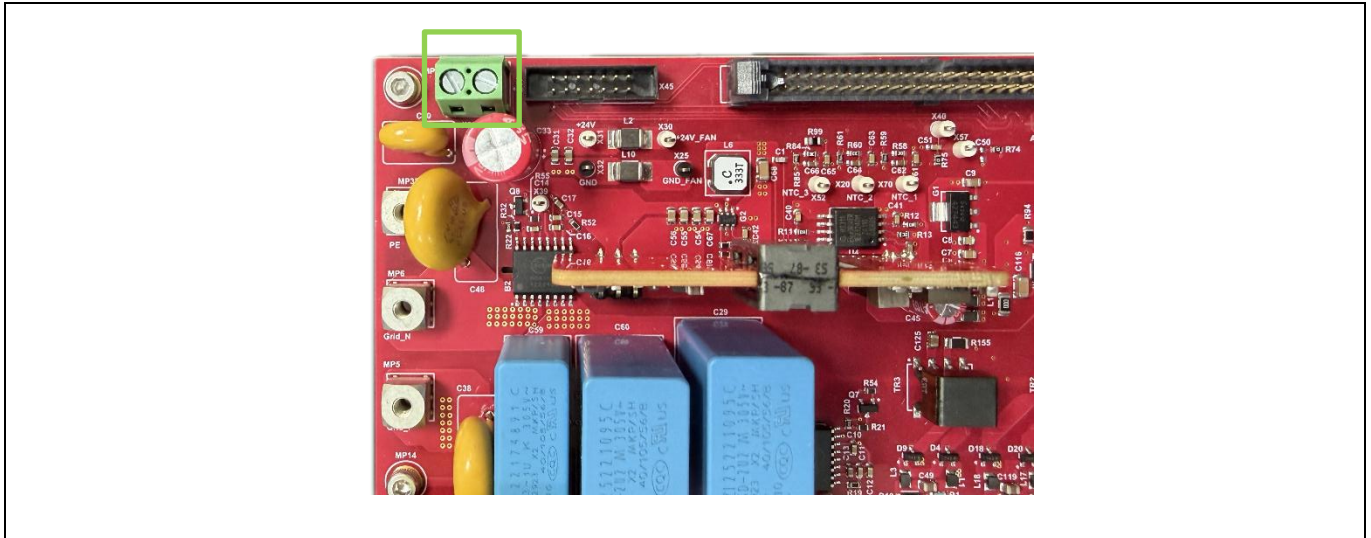

Figure 41 X31 and X32 for connection to external 24 V
2. Connect an external 24 V power supply to the HERIC board via X23 (Figure 41)